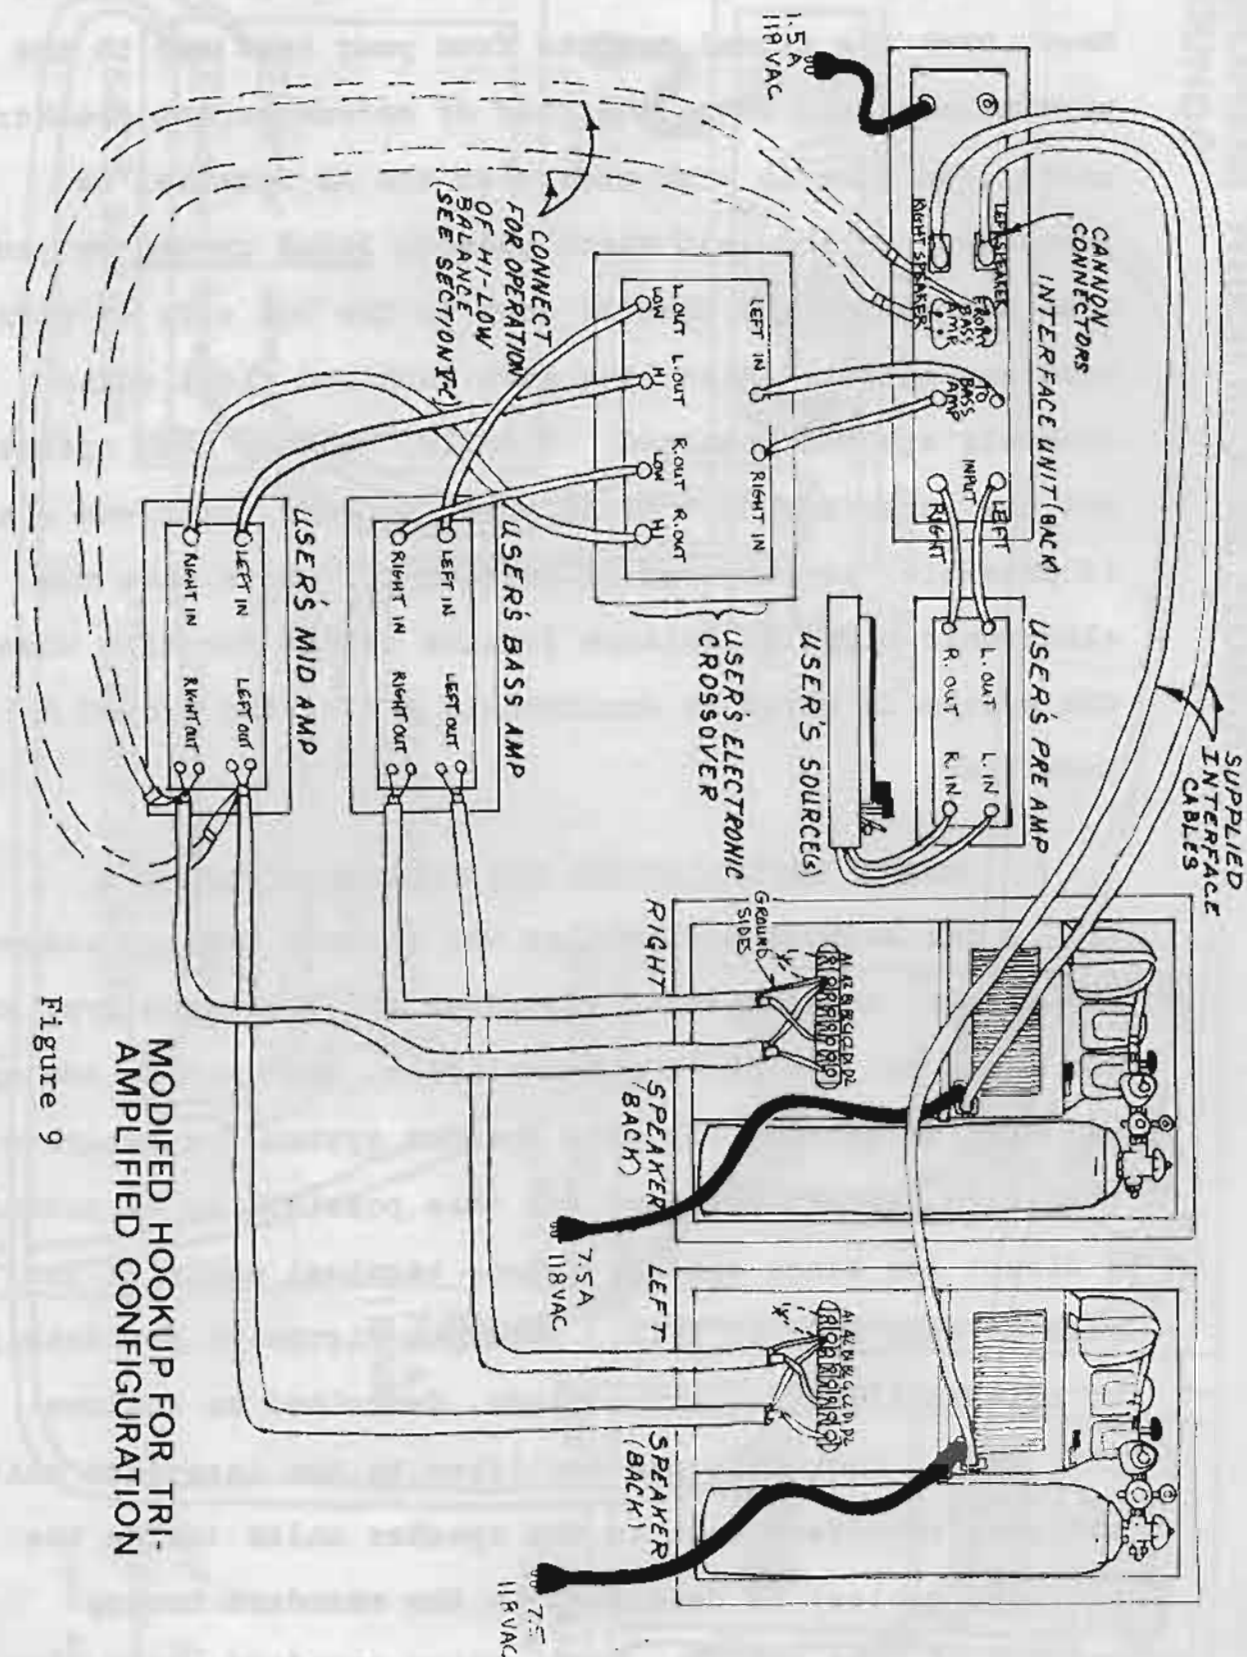

Figure 9
A few serious audiophiles who already own two stereo amplifiers, an electronic crossover which crosses over at (or close to) 100 Hz, a pre-amplifier, and audio cables, may wish to tri-amplify this speaker system for ultimate results. We have arranged for this possibility by providing a direct low range speaker access terminal strip at the rear of each speaker unit. Refer to Figure 9 for details of tri-amplification connections, described as follows:
Likewise, connect the right bass amp output to terminals A2 and C2 on the right speaker. If your amplifiers have multiple taps, use 8 ohms. Also note that the polarities indicated on the terminal strips in Figure 9 assume neither amplifier shifts the signal phase. That is, if there is no amplifier phase shift then the grounded sides of your amplifier goes to the A2 terminals in all cases.
- b) the acoustical environment is quite extraordinary. If the **situation** is such, extra drivers may be accomodated by accessing them directly from the output of the users mid and bass amp shown in Figure 9, in lieu of making the connections to the terminal strips, as shown. Alternately, the terminal
strips may be connected as shown in Figure 9 in addition to hooking up external drivers, if both internal drivers are desired simultaneously. In the latter case, amplifier impedance selection should account for the use of multiple drivers (the impedance of low and mid-range internal drivers is 8 ohms).